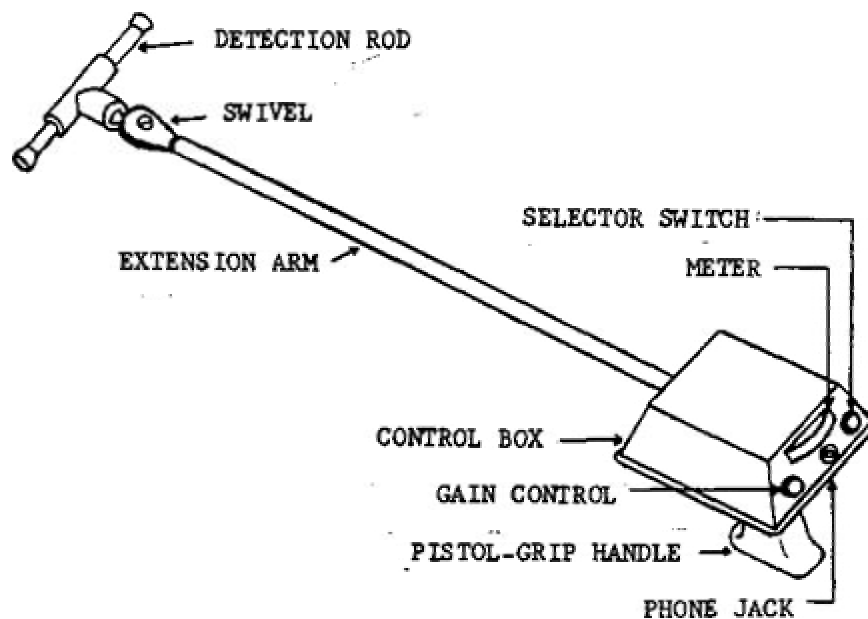
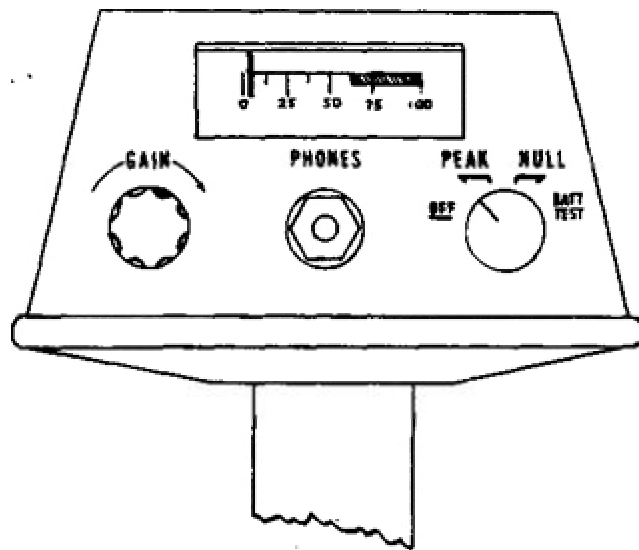
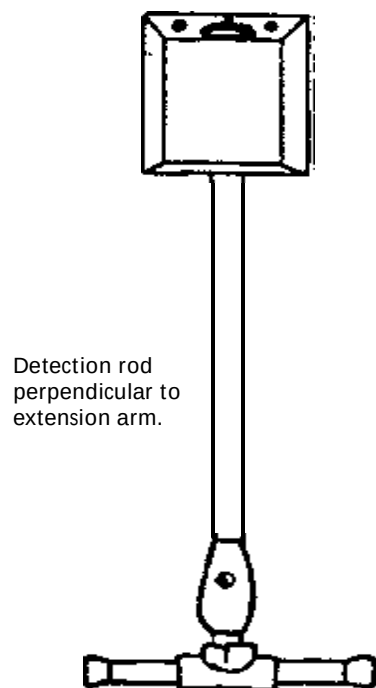
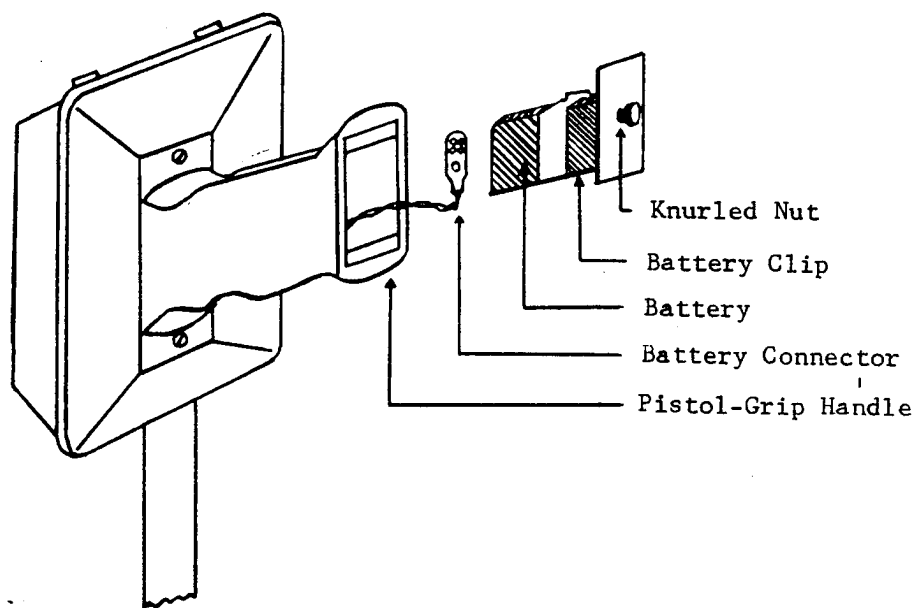

Figure 1: Line Drawing of the Cable Route Tracer Cat. No. 656601
Figure 2: Line Drawing of the Control Panel.
Figure 3: The Peaking or Maximizing Position
Figure 13: Battery Replacement in the Pistol-Grip Handle.
Structurally, the Cable Route Tracer consists of a control box fastened to a pistol-grip handle, and connected through an extension arm to a swivel-mounted detection rod as shown in Figure 1. By turning the swivel, the detection rod can be set into detecting positions either parallel to the telescoping arm, perpendicular to it, or inclined at 45 degrees to it, (see Figures 3, 6, and 9). The control box contains-and shields the electronic circuitry; on its face are mounted a gain control, a selector switch, a phone jack, and a meter as shown in Figure 2. The pistol-grip handle not only serves as a means of grasping the instrument but also houses its 9 volt battery in an easily removable clip, see Figure 13. A set of high-impedance headphones completes the instrument.
The gain control shown in Figure 2 on page 8 is a multi-turn potentiometer which provides a smooth and continuously variable adjustment of the amplifier gain.
The selector switch at the right of the panel as shown in Figure 2 has six positions
4. Place the detection rod at the desired angle of orientation; perpendicular to the extension arm for the "peaking" or maximizing technique, or parallel to the extension arm for the "nulling" or minimizing technique, as described below and shown in Figures 3 and 6.
The Maximizing technique locates or traces an energized cable by seeking the line of greatest signal response. For this mode of operation, the detection rod is placed in the detented position that sets it at right angles to the extension arm as shown in Figure 3; consequently, as the instrument is held in its normal vertical position, the detection rod is horizontal and parallel to the surface of the earth. The selector switch is set to one of its "peak" positions.
To replace the battery, the knurled nut at the end of the pistol-grip handle must be loosened and the battery-clip must be removed from the handle (Figure 13). The battery-connector is then unplugged from the battery, and the battery is removed from the battery clip. A new battery is installed by reversing these procedures.